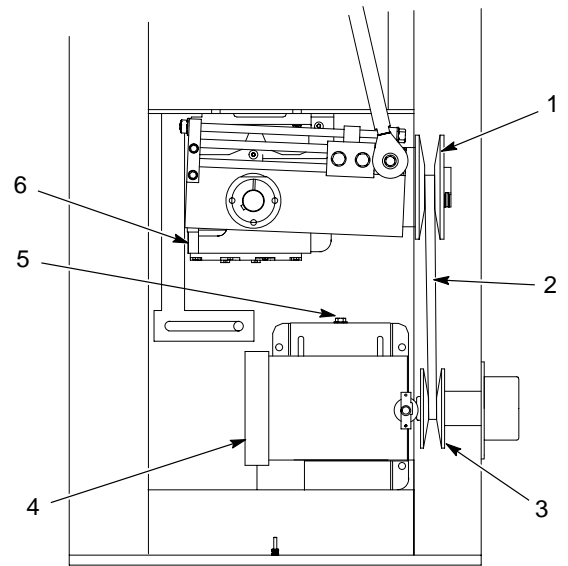

Figure 16 Sheave Replacement
1. See Figure 16. Remove the gear reducer (7) from the oscillator. Refer to *Removing the Gear Reducer* for instructions.
2. Measure the distance between the gear reducer housing and the sheave (1). The new sheave must be installed in the same location as the existing sheave.
1. See Figure 16. Remove the motor (4) and drive belt (2) from the oscillator. Refer to *Removing the Drive Belt* for instructions.
2. Measure the distance between the motor and the sheave (3). The new sheave must be installed in the same location as the existing sheave.
1. See Figure 16. Loosen the tension on the drive belt (3) using the motor base adjusting screw (6).
2. Measure the distance between the gear reducer (7) and the sheave (1). The new sheave must be installed in the same location as the existing sheave.
1. See Figure 16. Loosen the tension on the drive belt (2) using the motor base adjusting screw (5).
3. Measure the distance between the motor (4) and the sheave (3). The new sheave must be installed in the same location as the existing sheave.